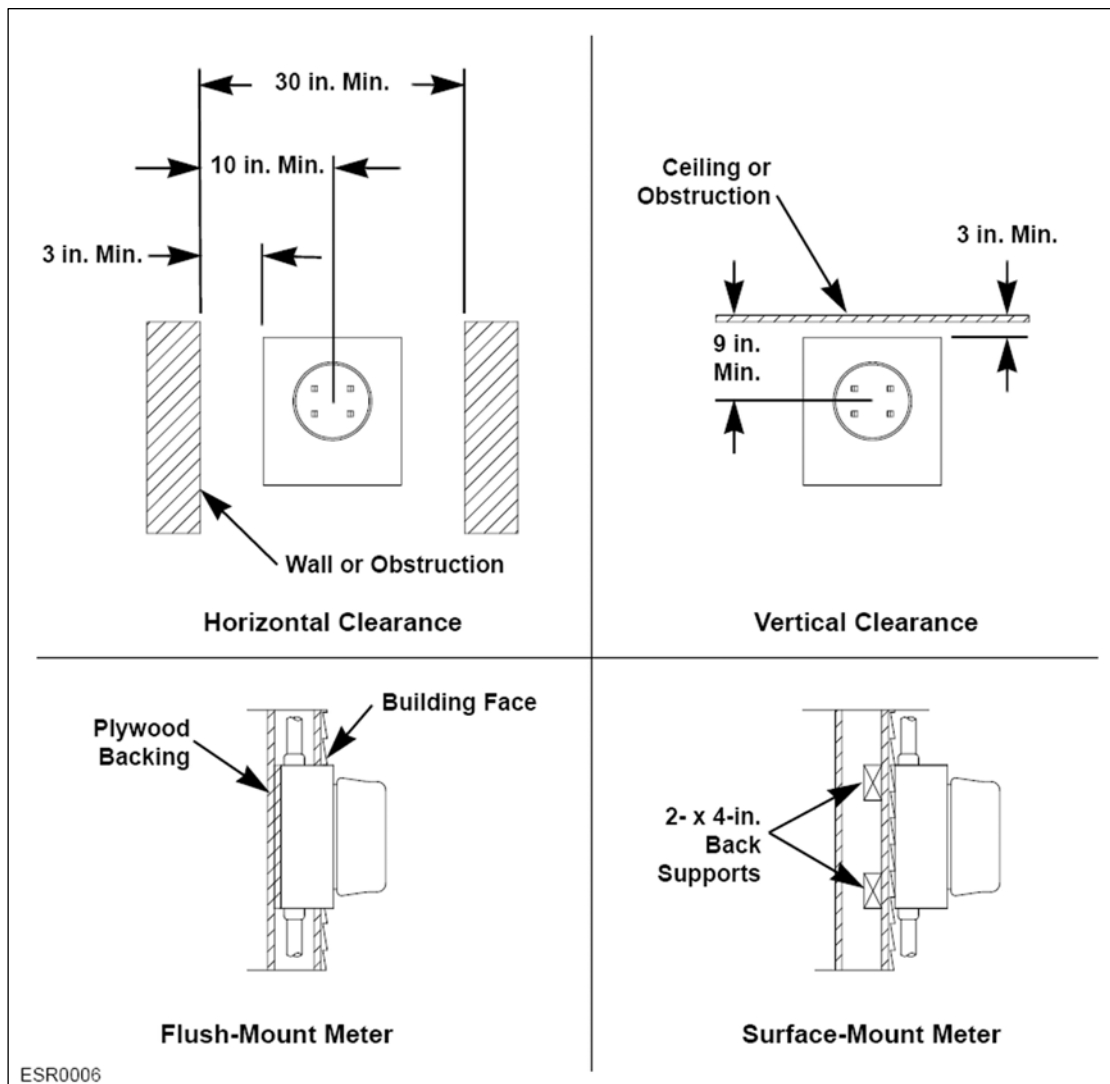

Figure 13: Meter Clearances for Single-Meter Installations
Follow these additional clearance requirements for single-meter installations, both flush-mount and surface-mount, as shown in **Figure 13**:
- The building face must not extend beyond the face of the meter box, as shown in **Figure 13**.
- A surface-mount meter must have at least two 2- x 4-inch back supports, as shown in **Figure 13**.